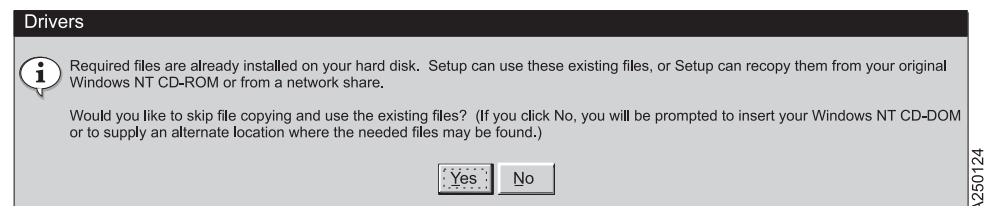

Figure 20. Windows NT Statement
9. If you installed the **Device Driver System Files** component in step 4 on page 199, Windows NT might ask the question shown in Figure 20. Click **Yes**, then skip to step 11. If the system prompts you for *ibmtape.sys*, browse to select the drivers directory (*c:\winnt\system32\drivers*). The system may also prompt you for *ntutil.exe*. Browse to the system32 directory (*c:\winnt\system32*).
10. If you **did not** install the **Device Driver System Files** component in step 4 on page 199, click **No** to the question in Figure 20. The operating system will prompt you for the location of the driver files.